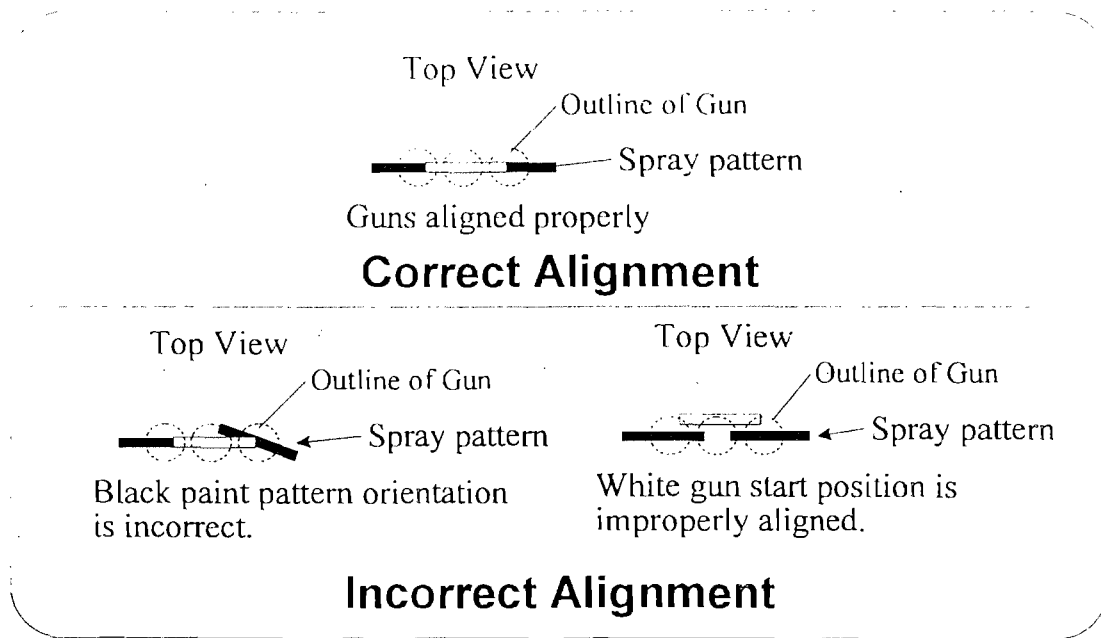

Figure 2.11.5: Spray Orientation
2.11.14 Depress the 'GUN 1' switch for approximately 1/10 second. Depress the 'GUN 3' switch for approximately 1/10 second. Depress the 'GUN 2' switch for approximately 1/10 second. The resulting spray pattern should look like Figure 2.11.5. Use a wrench to adjust the orientation of the orange spray tip to bring the spray pattern into alignment. Manually pivot the entire gun to adjust the start point of the spray pattern.
2.11.18 Depress each of the cam valves for approximately 1 seconds each. The spray pattern should look similar to Figure 2.11.5. Use a wrench to adjust the orientation of the tip to bring the spray pattern into alignment. Manually pivot the gun to adjust the start point of the spray pattern.